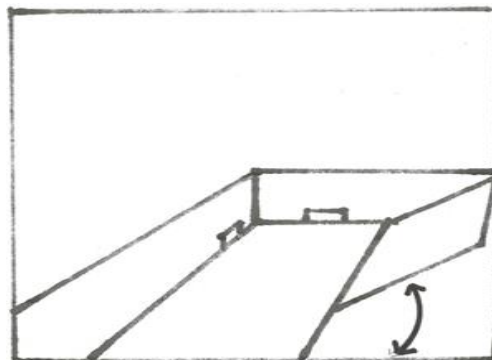

FIGURE 4
- Insert the second row by sliding the long joint tongue into the groove of the plank in the first row. Press down until it clicks into the adjacent plank (figure 4). Be certain to allow a minimum of 8” between end joints on the adjacent plank. The shortest starting or ending plank should not be less than 8” in length.